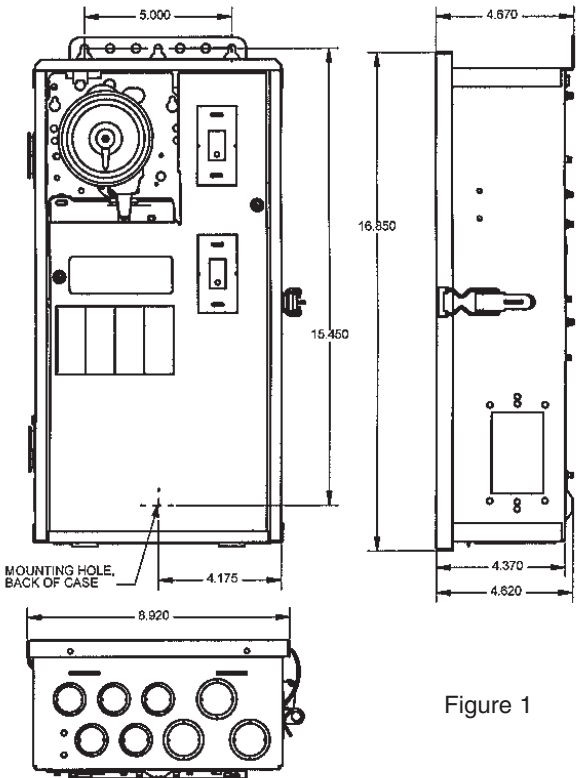

Figure 1
- 4. Refer to Figure 1 below; note that this enclosure contains one Time Switch and up to four full size circuit breakers. To wire the panel, follow the wiring diagram located inside the enclosure door. Make sure that connections to time switch terminals are tight (25 lb.-in. minimum) and insulation clears the pressure plate - see illustration.